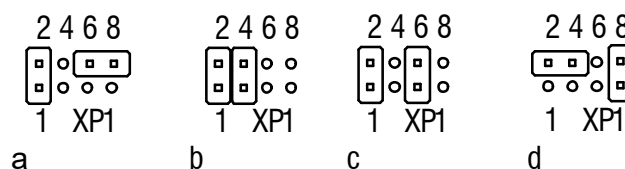

Fig. 6.3 Input configuration jumper positions
Jumper positions according to input configuration are shown in Fig. 6.3
- set the jumpers according to Fig. 6.3, 6.4, using a thin tool (e.g. tweezers)